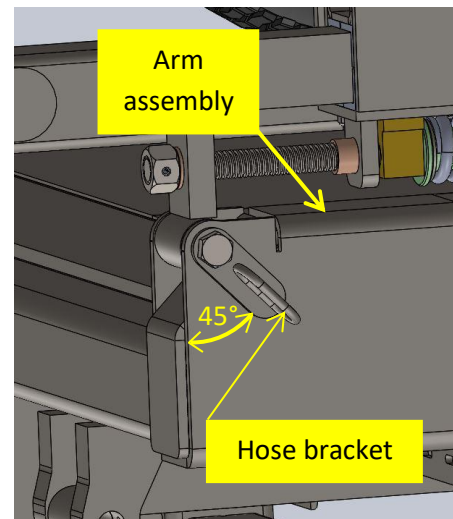

Figure 2
1. Install the hose bracket onto the rear mounting hole of the arm assembly at a 45° angle from the rear edge of the arm assembly as shown. Use one (1) of the two (2) provided $\frac{3}{4}$ " x 5-1/2" bolts and $\frac{3}{4}$ " nyloc nuts to secure the hose bracket and the retrieval system onto the arm assembly. Use the remaining bolt and nut to fasten the retrieval system onto the front mounting hole of the Reel Lift arm assembly. Figures 2 & 3